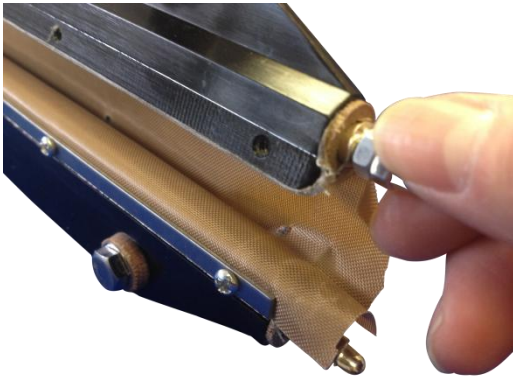
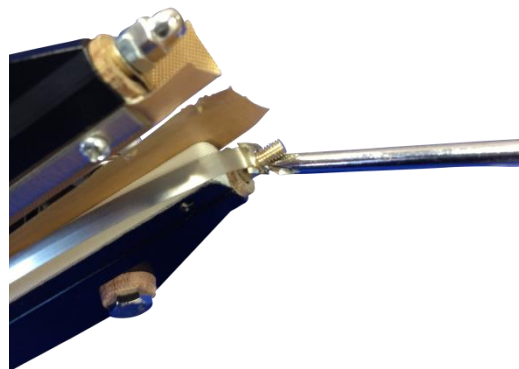

Figure 4. Loosen the cap and nut holding the heating element.
Figure 5. Remove heating element by pressing down on the mounting screw.
2. Unscrew the cap and nut that are holding the heating element (**Figure 4**). To remove the heating element, use a screw driver to press down on the mounting screw which is spring loaded (**Figure 5**). When you release one end of the element, the other element should release easily.